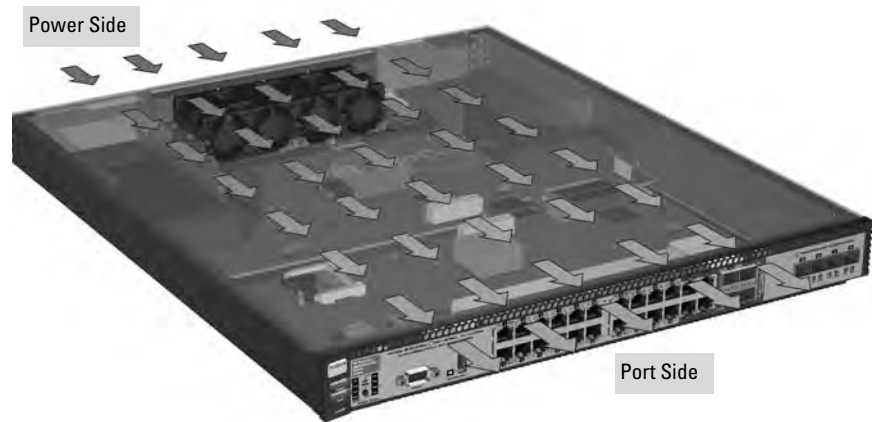

Figure 2-5. Default air-flow direction in 6600 Switches is from power to ports.
- Ensure the air flow around the front and back of the switch is not restricted. Leave at least 7.6 cm (3 inches) for cooling. See Figure 2-5 for the air flow direction.
- In the front of the switch, leave at least 7.6 cm (3 inches) of space for the twisted-pair fiber-optic cabling and for cooling. See Figure 2-5 for the air flow direction.